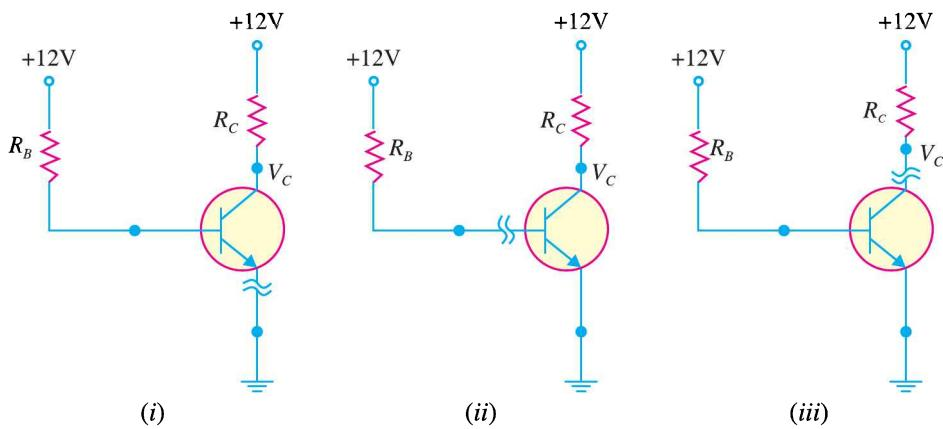

Fig. 8.27
**Example 8.20.** Fig. 8.27 shows the open circuit failures in a transistor. What will be the circuit behaviour in each case ?
**Solution.** \*Fig 8.27 shows the open circuit failures in a transistor. We shall discuss the circuit behaviour in each case.
(i) **Open emitter.** Fig. 8.27 (i) shows an open emitter failure in a transistor. Since the collector diode is not forward biased, it is *OFF* and there can be neither collector current nor base current. Therefore, there will be no voltage drops across either resistor and the voltage at the base and at the collector leads of the transistor will be 12V.
(ii) **Open-base.** Fig. 8.27 (ii) shows an open base failure in a transistor. Since the base is open, there can be no base current so that the transistor is in *cut-off*. Therefore, all the transistor currents are 0A. In this case, the base and collector voltages will both be at 12V.
(iii) **Open collector.** Fig. 8.27 (iii) shows an open collector failure in a transistor. In this case, the emitter diode is still *ON*, so we expect to see 0.7V at the base. However, we will see 12V at the collector because there is no collector current.